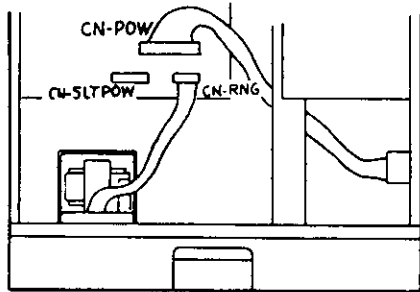

FIGURE 4-30 RINGER UNIT INSTALLATION FOR 824/2464KSU
1. For ZT-824/2464KSU without the DCDC-Z unit, insert rear base plate (wiring harness side) of the RNGER into two tabs on the base of the ZT-824/2464KSU. Then secure the front to the base tab with a screw provided as shown in Figure 4-30.